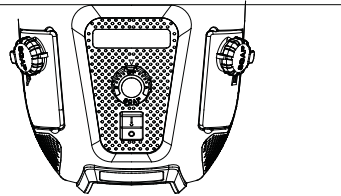

Fig. 7-2
- Turn dial to choose the desired tank. (See Figure 7-2.)